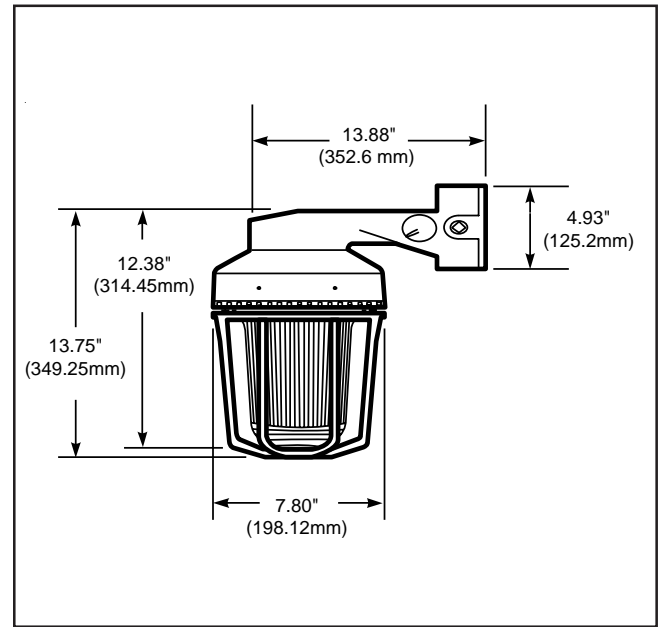

Figure 3. Detail of Bracket Mounting
- c. **Bracket Mount Models** (Figures 3 and 4): Unscrew the globe assembly from the wall bracket. Install the mounting bracket using appropriate hardware (not supplied) for the mounting surface. Pull the field wiring through the mounting bracket. Proceed to step 2.